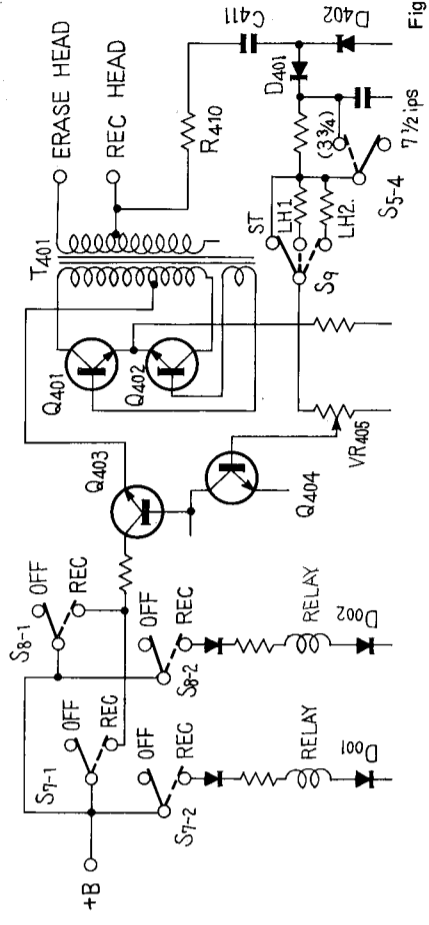

Fig. 3
7. When operating the REC switches (S7 and S8), i.e., the stereo recording, the +B voltage is fed to the oscillator circuit and the current flows to the light-emitting diodes (D001, D002) through relays simultaneously and recording is indicated (Fig. 3).
3.3 OSCILLATOR CIRCUIT (Fig. 3)